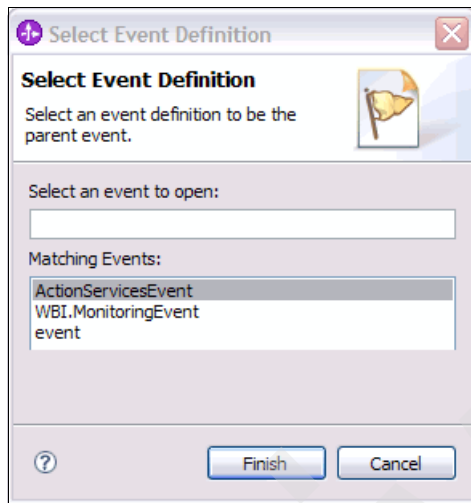

Figure 5-54 Select Event Definition window
4. In the Select Event Definition window (Figure 5-54), double-click **ActionServicesEvent**.